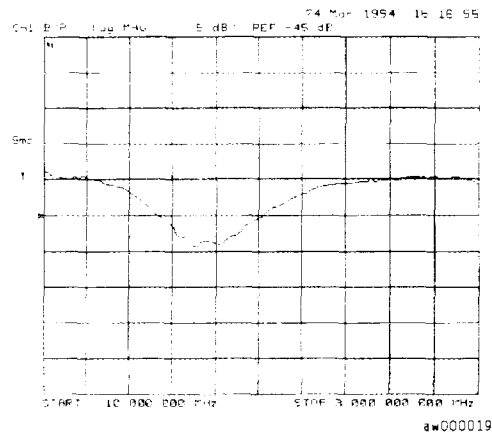

Figure 8-22. Example Mixer RF Feedthrough Measurement
- 7 The measurement results, in Figure 8-22, show the mixer's RF feedthrough.